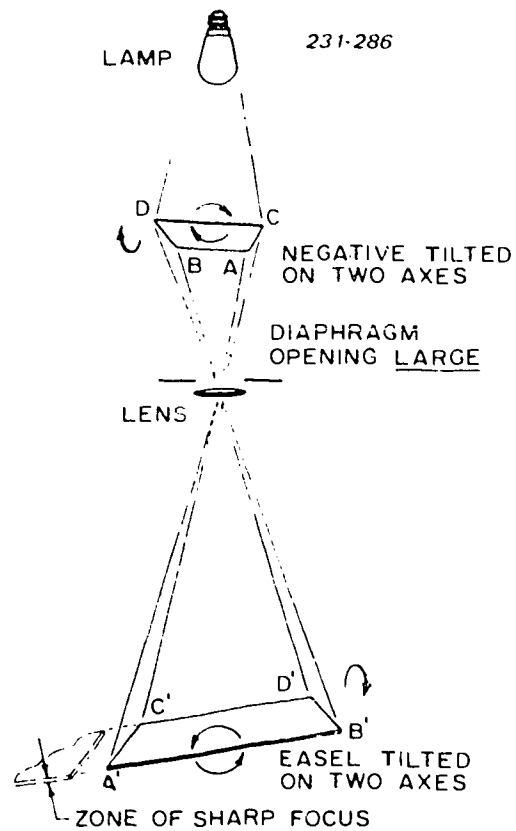

Figure 3-13. Correction by tilting both the negative and the easel in two directions.
**Tilting Both the Easel and the Negative on Two Axes.** Certain projection printers are equipped with both a two-axes tiltable negative carrier and a two-axes tiltable easel. The type of arrangement shown in figure 3-13 is ideal for correction of distortion. Distortion in any direction of the negative can be corrected, and the zone of sharp focus can be made to coincide with the easel in its tilted position. Correction of distortion on both a horizontal axis of the negative and a vertical axis of the same negative is possible. Large diaphragm openings are possible without seriously affecting image quality.
**Exercises (651):**